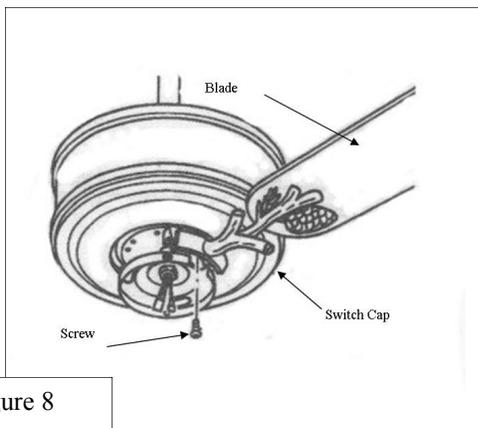

Figure 8
- Attach each blade arm to the motor face using the 2 screws included in the parts kit. Medallions styles will vary. (figure 8)
- The pull chain, located on the switch housing (see figure 8), will control the speed of your fan. When the fan is OFF – pull the chain once for HIGH, twice for MED and 3 times for LOW – pull the chain a 4th time and the fan turns off again. The optional remote controls do not use the pull chain switches or reverse switch.